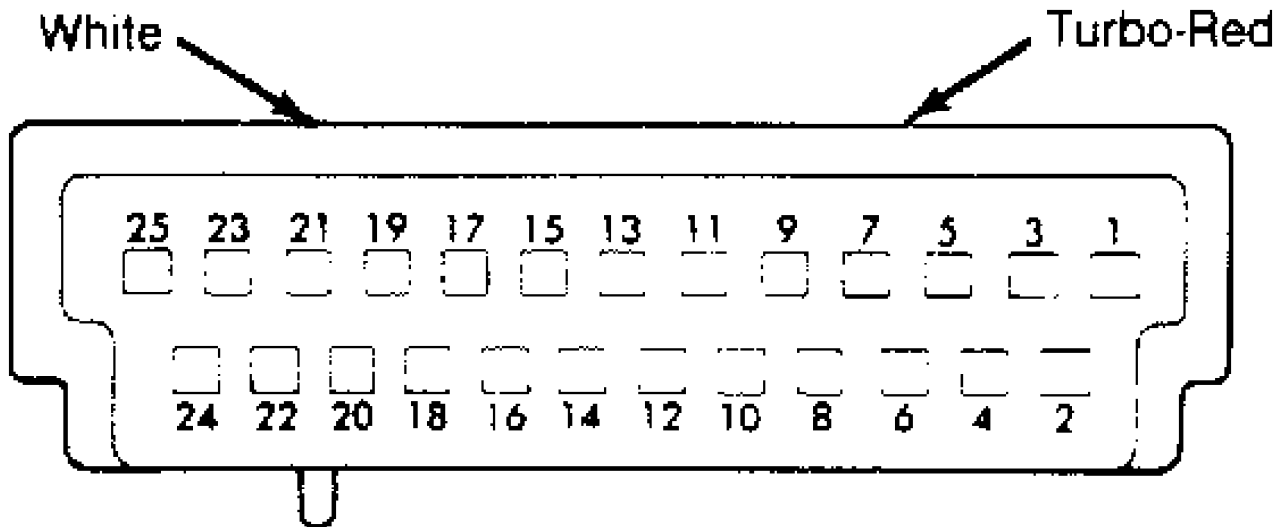

Fig. 7: SMEC Connector
5) If Codes 88-12-47-55 are displayed, Code 47 indicates an alternator output fault. Check for a loose fan belt then check battery and alternator systems. Record all codes. See Fig. 7.
4) If display on readout box is reading within one volt of battery voltage, repair wire in cavity No. 22 of SMEC (Black on EFI and Blue on turbo vehicles) connector. Check for open circuit to wiring harness splice. See Fig. 7.